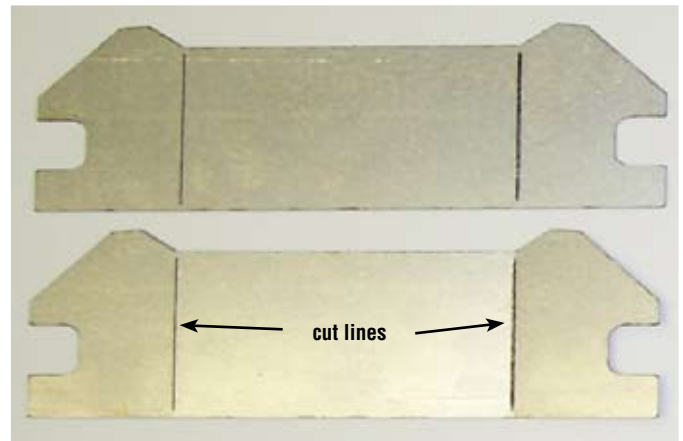

Figure 31
1. Remove the two log support brackets from the box and bend the ends of the brackets 90 degrees at the cut lines. See *Figure 31*.